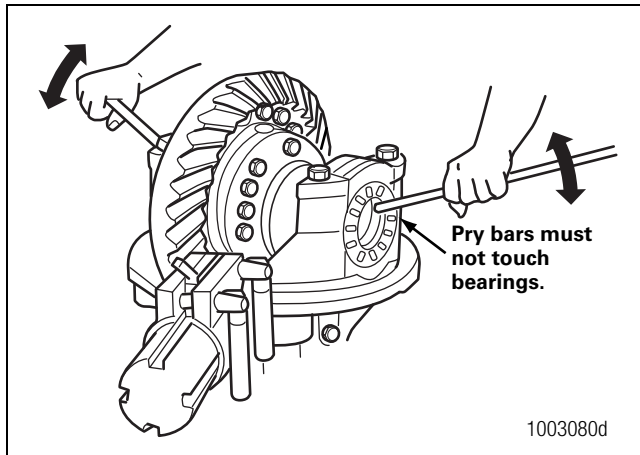

Figure 5.31
- A. Insert two pry bars between the bearing adjusting rings and the ends of the differential case. Figure 5.31. The pry bars must not touch the differential bearings.